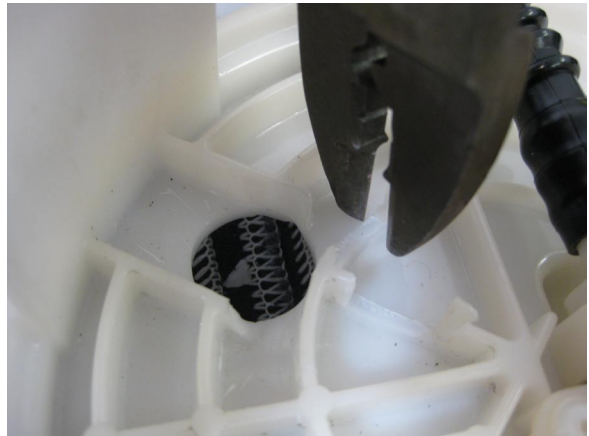

Fig. ag6
- AD. Enlarge the 1/8" pilot hole to 43/64" stepping up in gradual increments and taking care not to crack the lid. Using cutters, carefully remove the surrounding webbing from the underside of the lid so the supplied bulkhead sealing nut can sit flush. See fig ag6.